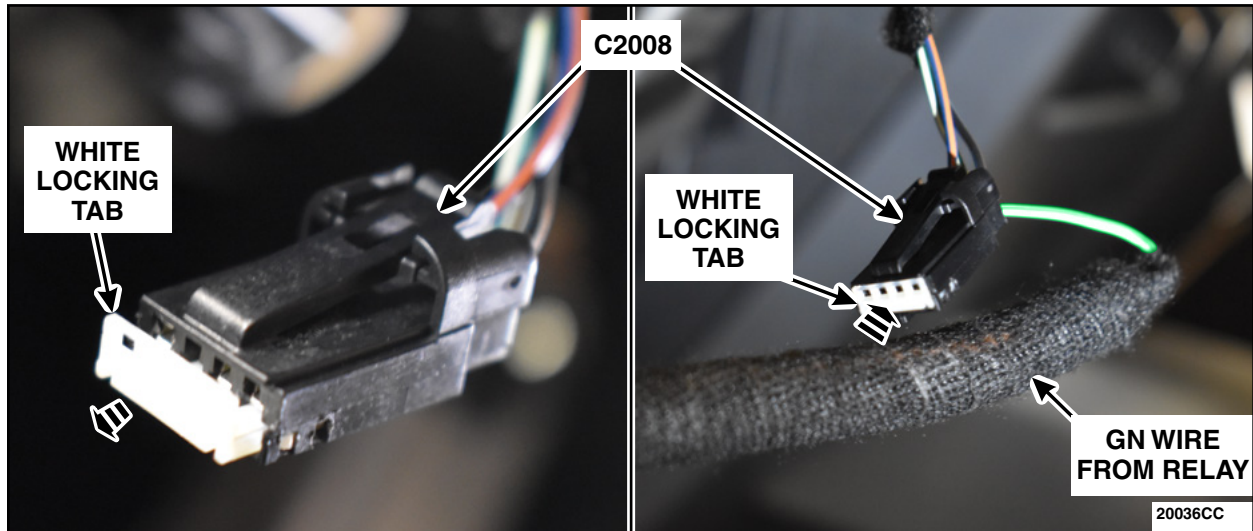

FIGURE 30
48. Disengage the white locking tab on C2008. Install the GN wire from the relay into the open cavity of C2008. Engage the white locking tab. See Figure 30.